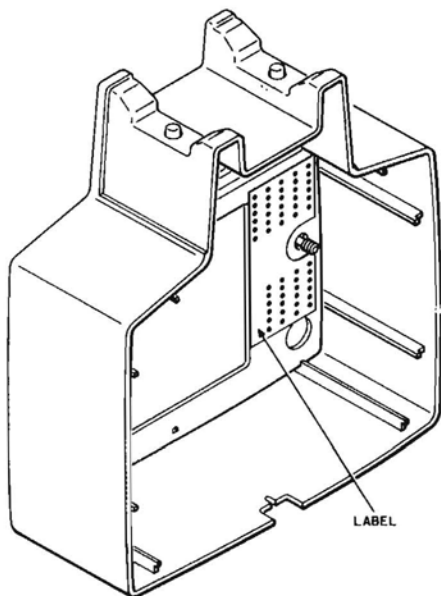

Fig. 16—Connecting Block Terminal Information
**3.08** Since individual terminals are not designated on the quick-connect blocks, terminal identification is provided on the inside of the housing as a wiring guide (Fig. 16). Terminals 1-30 are on the upper block and 31-54 are on the lower block. Terminals 51-54 are spare. Use a 714B tool to terminate conductors.
**4.01** For sets equipped with a 66S1-type connecting block, terminate IW cable as shown in Fig. 26 and 27 using the terminal identification information inside the housing as a guide in locating terminal numbers (Fig. 16).